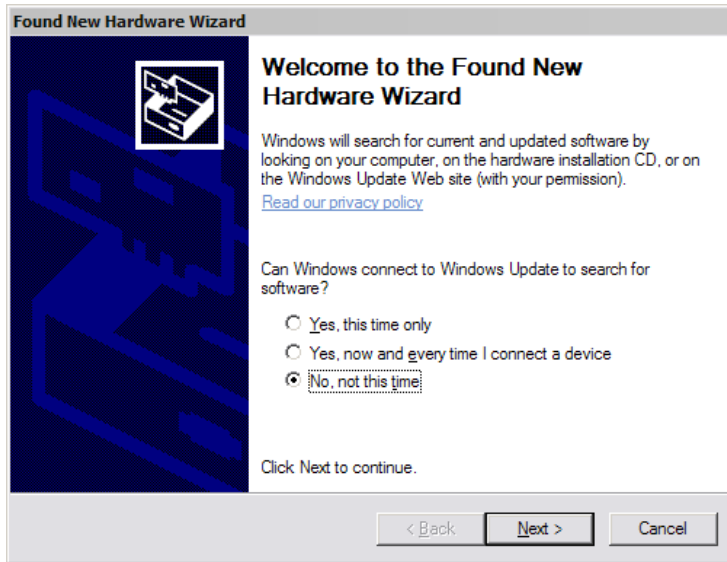
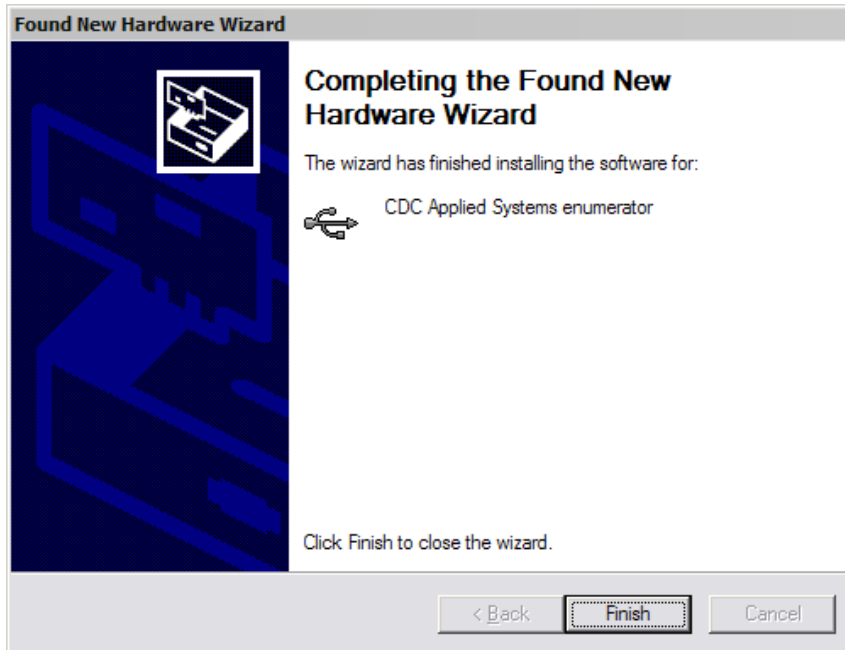

Figure 2
Figure 6
7. Select "Finish" to proceed with the next phase. The same sequence of steps as illustrated in Figure 2 through Figure 6 will be repeated to install the "enumerator" for the second BCOM-USB port.
8. When the "enumerator" for the second BCOM-USB port has completed, the same screen as shown in Figure 6 will be displayed.